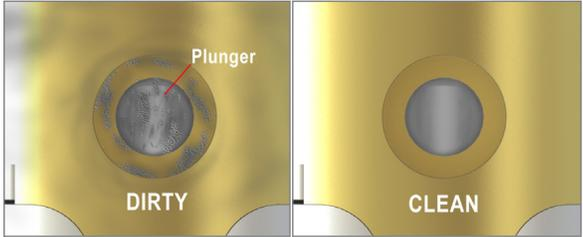

Figure 4: Clean Out Lock Pin Hole
5. Inspect ball bearing and lock pin holes for dirt and debris. Blow out the holes with compressed air, or clean using a fine cotton swab. See Figure 4.